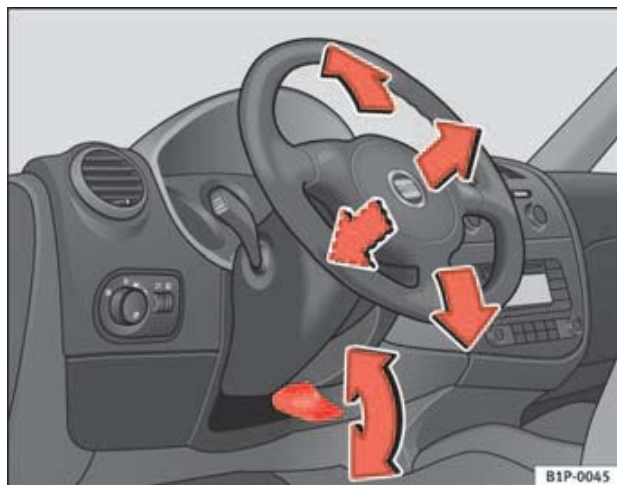

Fig. 112 Adjusting the steering wheel position
- Push the lever under the steering column ⇒ fig. 112 down ⇒ ⚠.